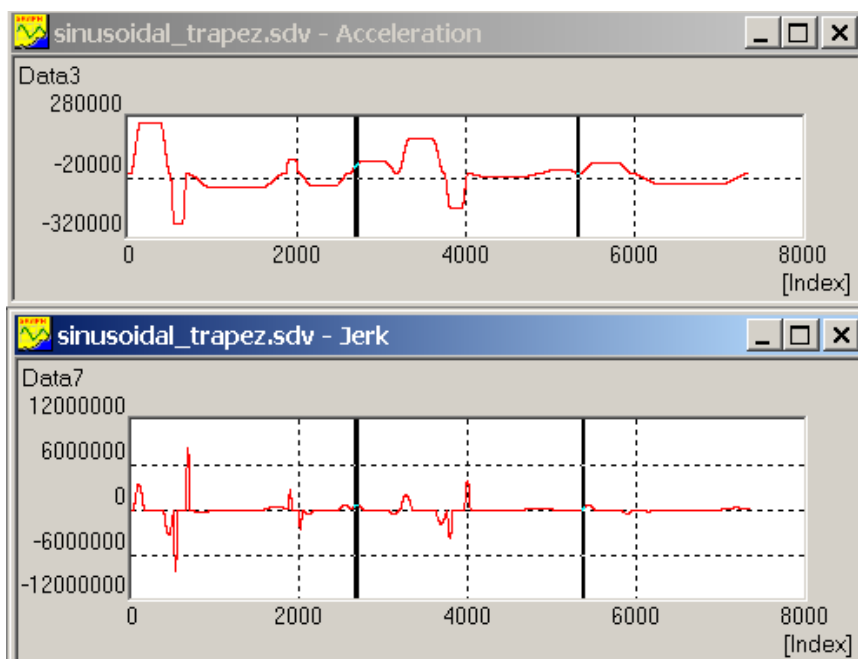

Figure 7-9: Cycloid Sinusoidal Velocity Modified 2 Example
- It guarantees continuity by position, velocity, acceleration and jerk (if all the segments defined with this interpolation mode). An example can be seen in Figure 7-9.